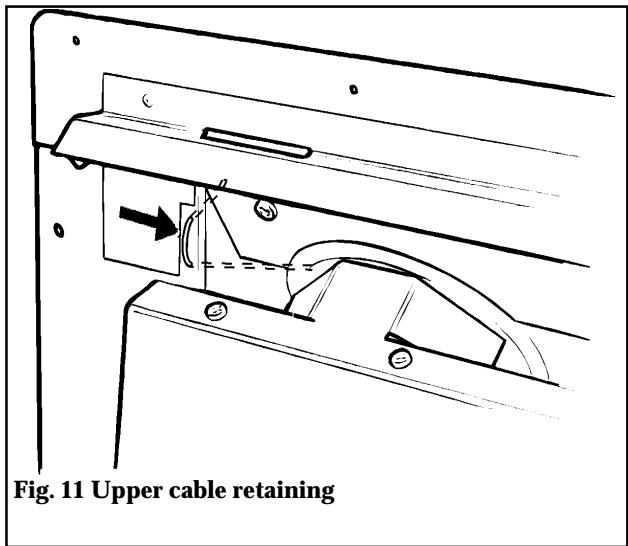

Fig. 11 Upper cable retaining
**7.2.4** The convection box has two holes at each side of the convected air opening. Insert one end of each cable (one cable each side) from the back through the lower of the two holes and return the end through the upper of the holes (see figure 11). Give the cables a pull so that they grip against the convection box flanges.